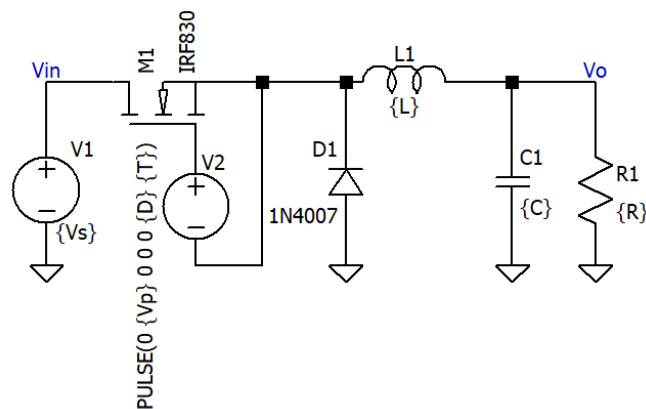

Figure 6.1 Buck Converter
1. Connect the circuit as shown in Figure 6.1.